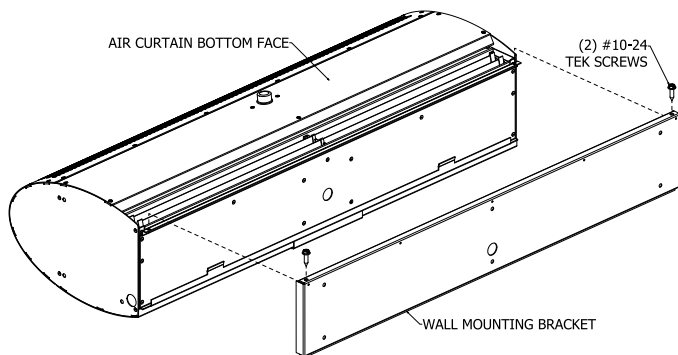

FIG. 1
2. Lay unit on its top face (with directional vanes pointing up) and remove the two (2) Tek screws from the wall mounting plate, just behind the discharge nozzle, and remove the mounting plate by sliding up (FIG. 1).